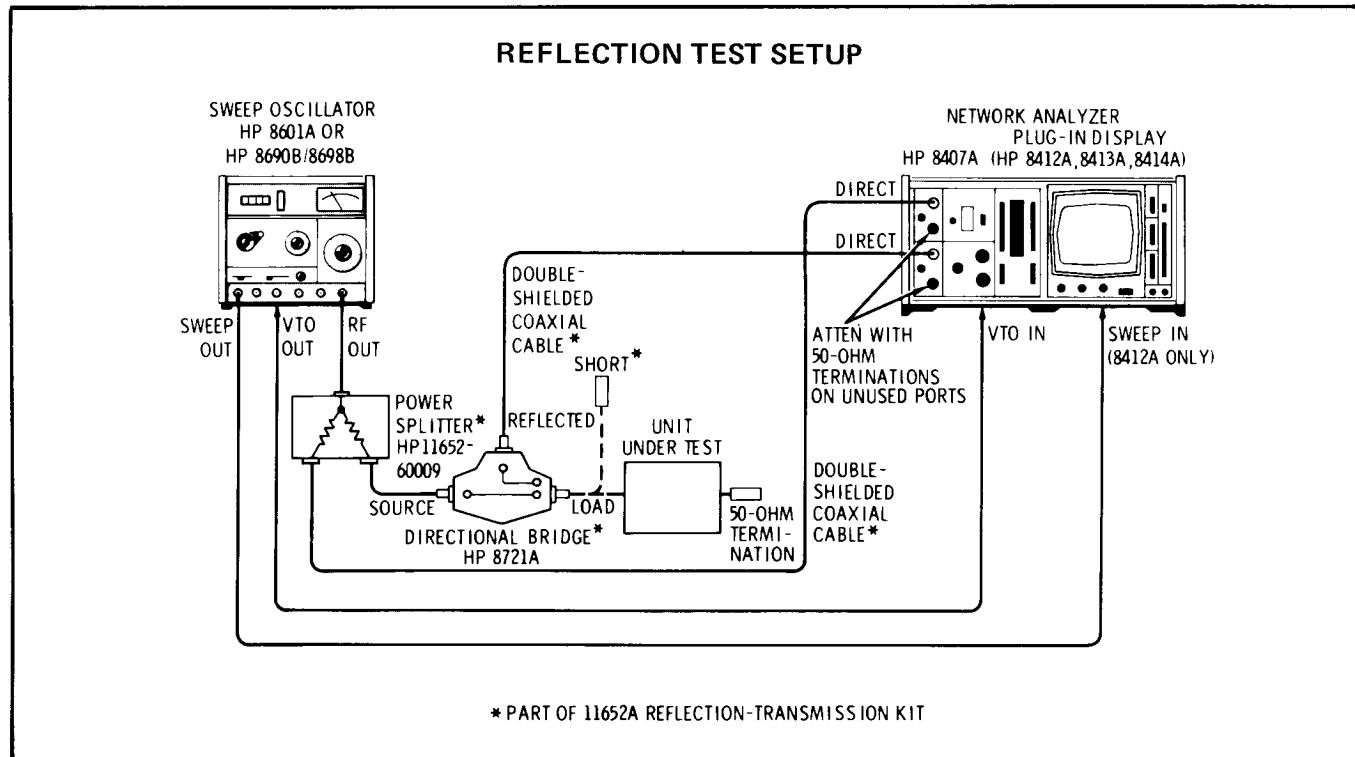

Figure 3-4. Reflection Test Setup
- Connect equipment as shown in Figure 3-4. Connect the RF short to the LOAD port of the directional bridge. Set the REF CHAN LEVEL ADJ switch to the middle position.